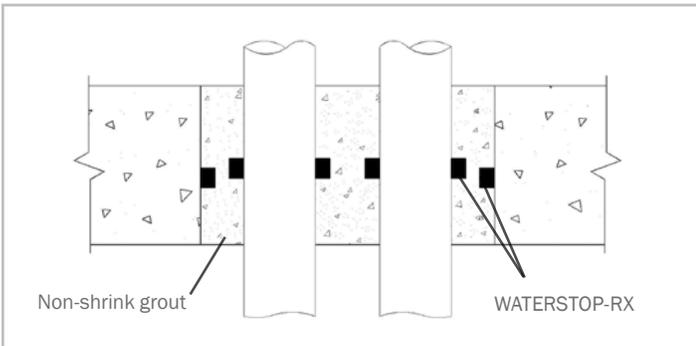

Figure 4.3 – Multiple pipe penetration
**Multiple Pipe Penetrations:** Install WATERSTOP-RX around each pipe, as well as, around any block out box construction joint. WATERSTOP-RX 102 shall be installed around penetrations with less than 100mm (4”) between penetrations (see Figure 4.3).